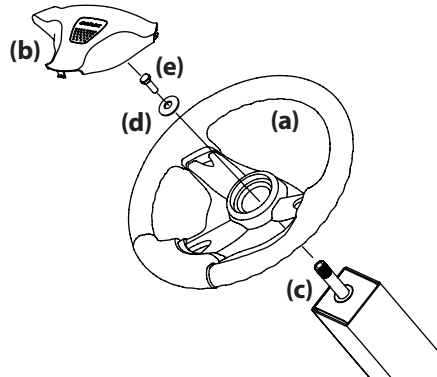

Figure 2-8
- Remove the hardware for attaching the steering wheel (a) from beneath the steering wheel cover (b). Carefully pry off the steering wheel cover (b) to remove the hardware. See Figure 2-8.
- With the wheels of the tractor pointing straight forward, place the steering wheel (a) over the steering shaft (c). See Figure 2-8.
- Place the belleville washer (d) over the steering wheel (a) and secure with the hex screw (e). See Figure 2-8.
- Place the steering wheel cover (b) over the center of the steering wheel (a) and push downward until it "clicks" into place. See Figure 2-8.